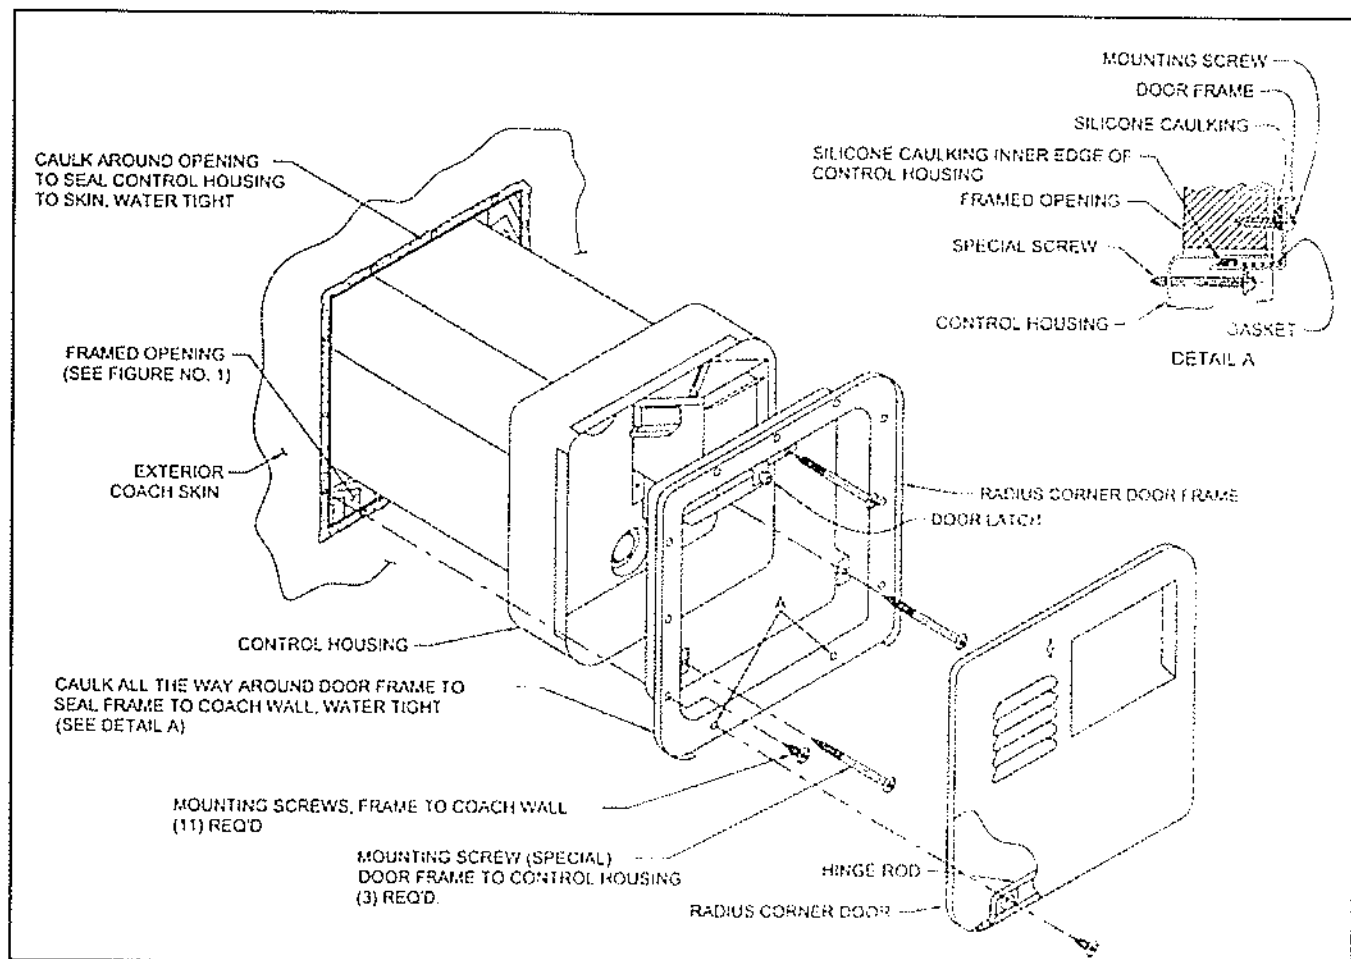

Figure 3
INSTALLATION USING HINGED DOOR (See Figure 3 for illustration)
F. Fit the door frame into control housing (over the caulking already applied) and pull frame tight to control housing using the three (3) No. 8-15 x 3 1/2" screws provided.
G. Push water heater into framed opening until back side of door frame (now attached to control housing) is against the side of the coach and firmly attach with screws around the perimeter of the frame. NOTE: The two (2) holes in bottom of frame identified as "A" in Figure 3 are also used to mount door hinge to the frame.